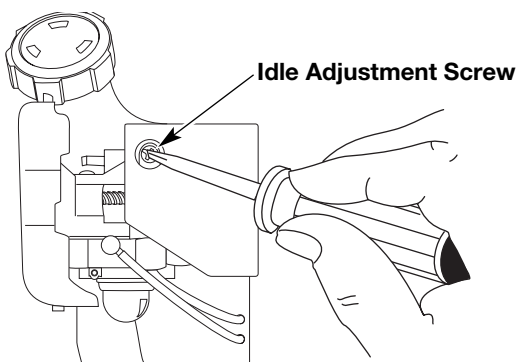

Fig. 61
The idle speed of the engine is adjustable. An idle adjustment screw is reached through a hole in the top of the engine cover (Fig. 61).
2. Release the throttle trigger and let the engine idle. If the engine stops, insert a small phillips or flat blade screwdriver into the hole in the air filter/muffler cover (Fig. 61). Turn the idle speed screw in, **clockwise**, 1/8 of a turn at a time (as needed) until the engine idles smoothly.